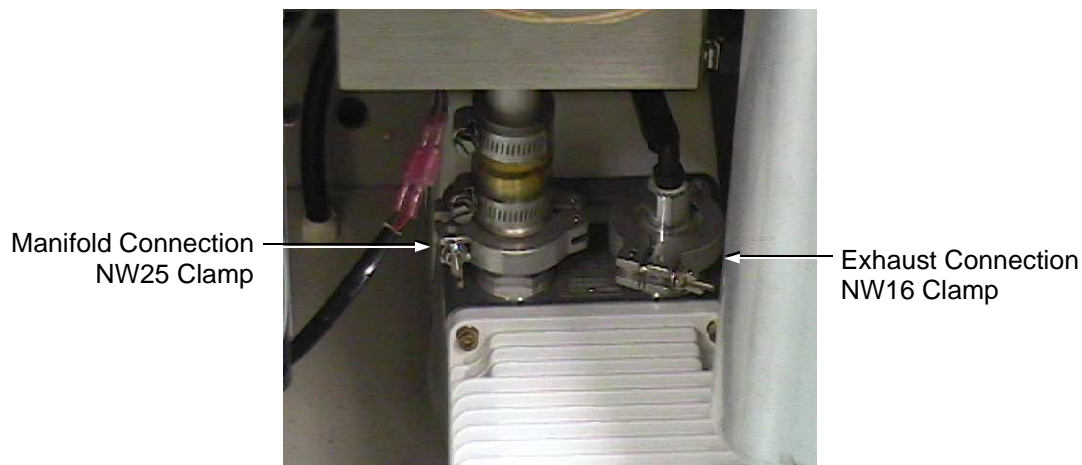

Figure B-11 Rough Pump Manifold and Exhaust Connections
7. Remove the NW25 clamp from the left manifold (Figure B-11).